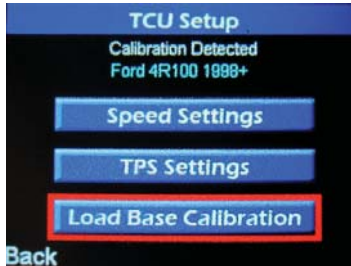

Figure 26
1. To alter, select “**LOAD BASE CALIBRATION**” using the “**UP**” and “**DOWN**” arrow buttons and press the “**OK**” button (Figure 26).